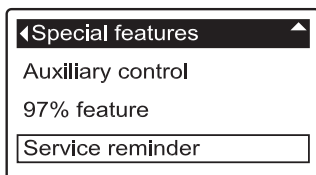

FIG. 78
1. From any of the rolling status screens, press the SELECT (O) button to display the **Main menu**.
3. Press the SELECT (O) button to display the Advanced settings menu.
5. Press the SELECT (O) button to display the Special features menu (See Figure 78).
9. Press the SELECT (O) button. The display will go back to the Special features menu (Figure 78).